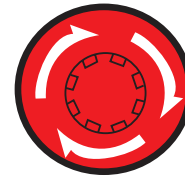

Figure 65. Emergency Stop Switch
1. To stop the engine in the event of an emergency, press the **Emergency Stop switch** (Figure 65).